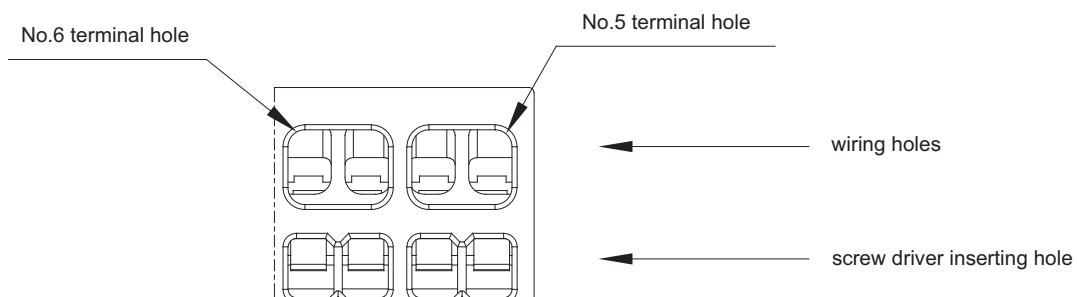

Figure 4
- The insertion position of the wire and the screwdriver and the insertion direction of the screwdriver are as shown in Figure 4.